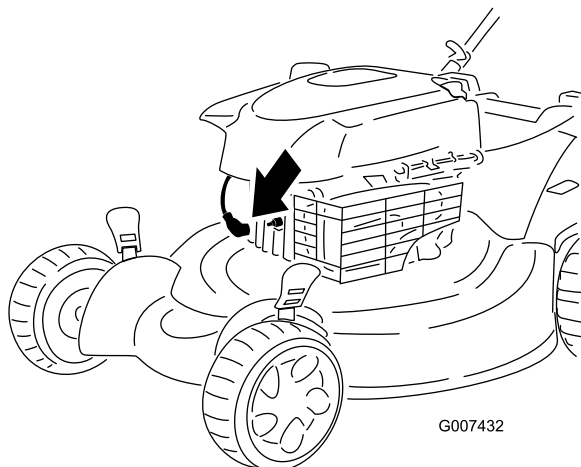

Figure 29
2. Disconnect the spark-plug wire from the spark plug (Figure 29) before performing any maintenance procedure.